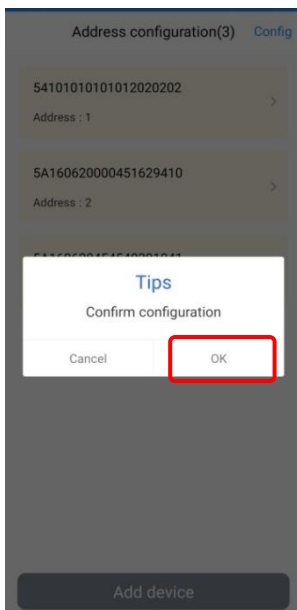

Figure4-22 Confirm configuration page
Step 1 Set the quantity of DCDC module in "**Settings-System setting**" page, as shown in Figure4-22.